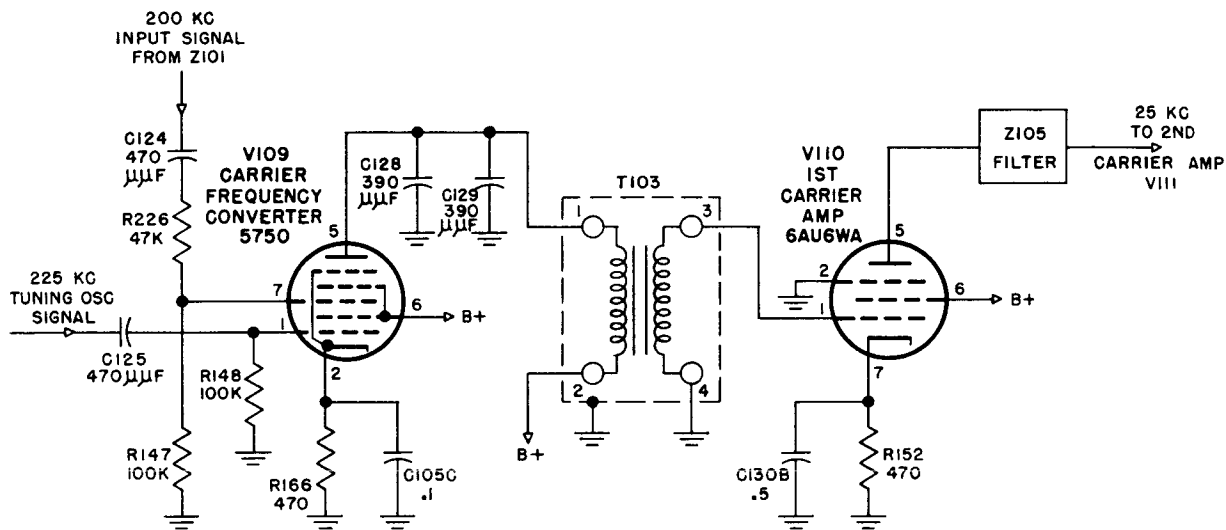

Figure 2-6. Carrier Separation Channel, Simplified Schematic Diagram
(1) CARRIER FREQUENCY CONVERTER V109. (See Figures 2-6 and 7-7.)—Carrier frequency converter V109 uses a 5750 pentagrid converter. In this stage, as in the sideband converters, the input signal mixes with the tuning oscillator signal. The 200-kilocycle input at the output of filter Z101 appears at grid 7 of V109 through capacitor C124 and resistor R226. The 225-kilocycle oscillator signal, taken from the output of oscillator amplifier V303B, is injected at grid 1 of V109 through coupling capacitor C125. The output of V109 is coupled to the following stage, the first carrier amplifier V110, through transformer T103. C128 and C129 are fixed tuning capacitors which, in conjunction with the primary of transformer T103, form a tuned circuit resonant for 25 kilocycles. V109 draws its plate and screen supply through the filter network consisting of resistors R149 and R150 and capacitors C126 and C127A. R148 is the grid resistor. R166 is the cathode bias resistor. Capacitor C105C by-passes RF currents from the cathode.
(2) FIRST CARRIER AMPLIFIER V110 AND FILTER Z105.—First carrier amplifier V110, a 6AU6WA pentode, amplifies the output of carrier frequency converter V109. The amplification is necessary in order to offset the appreciable loss of amplitude in the following narrow band pass filter Z105.